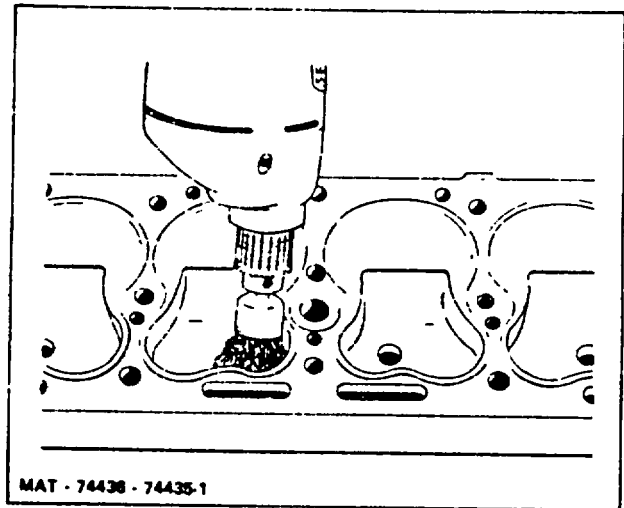

Figure 18. Cleaning Carbon from Combustion Chamber
1. Using a scraper and wire brush, remove all carbon from combustion areas. See Figure 18.